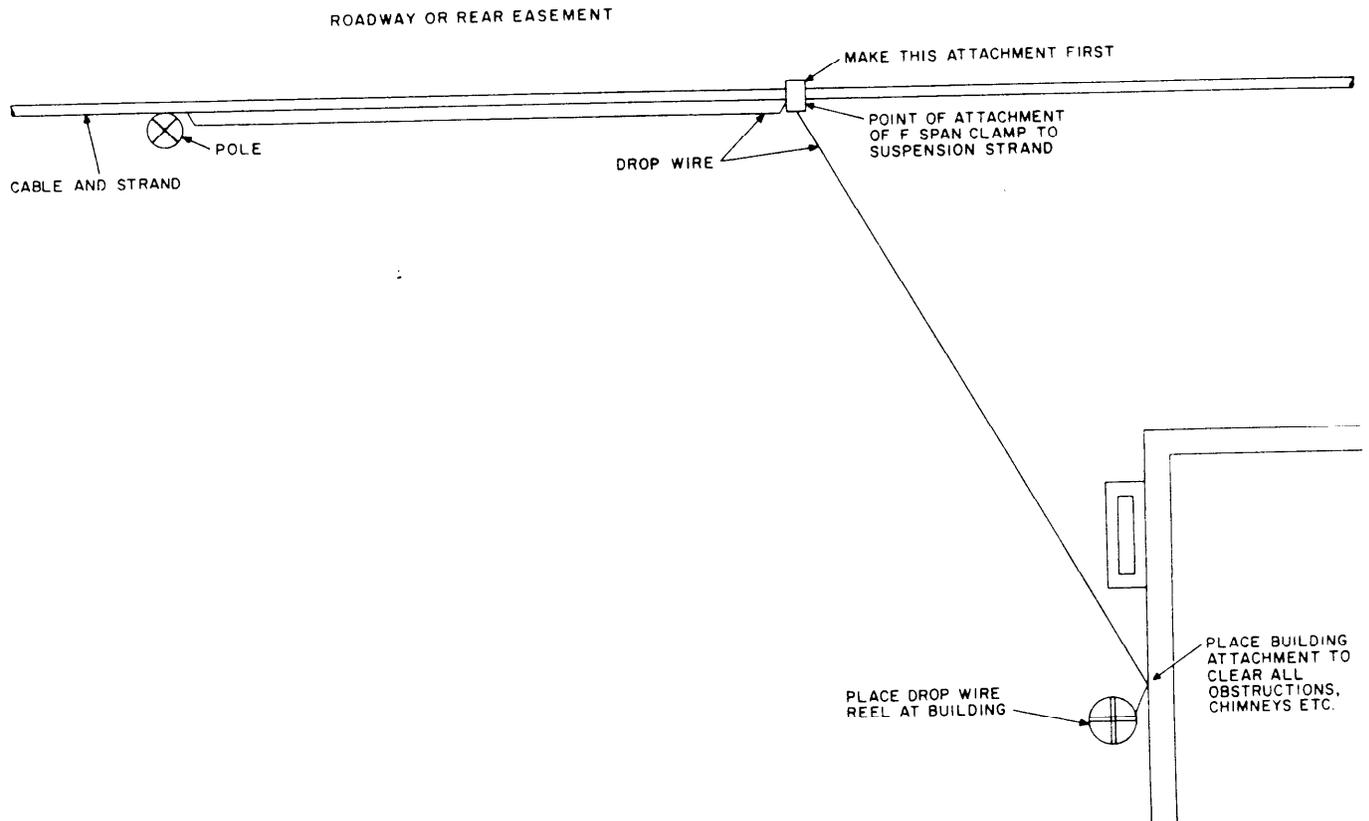

Fig. 26-Relative Positions of Pole, Building, and F Span Clamp
6.09 Contrary to normal practices, the procedure for placing drop wire with the F span clamp requires that the suspension strand attachment must be completed first. For this reason, the F span clamp is not recommended for use when the subscriber's premises are located on the opposite side of the street from the distribution cable. The danger in such cases is that vehicular traffic may be obscured from the craft person's vision during building attachment operations. Figure 26 shows the relative positions of the pole, F span clamp, and the building attachments.